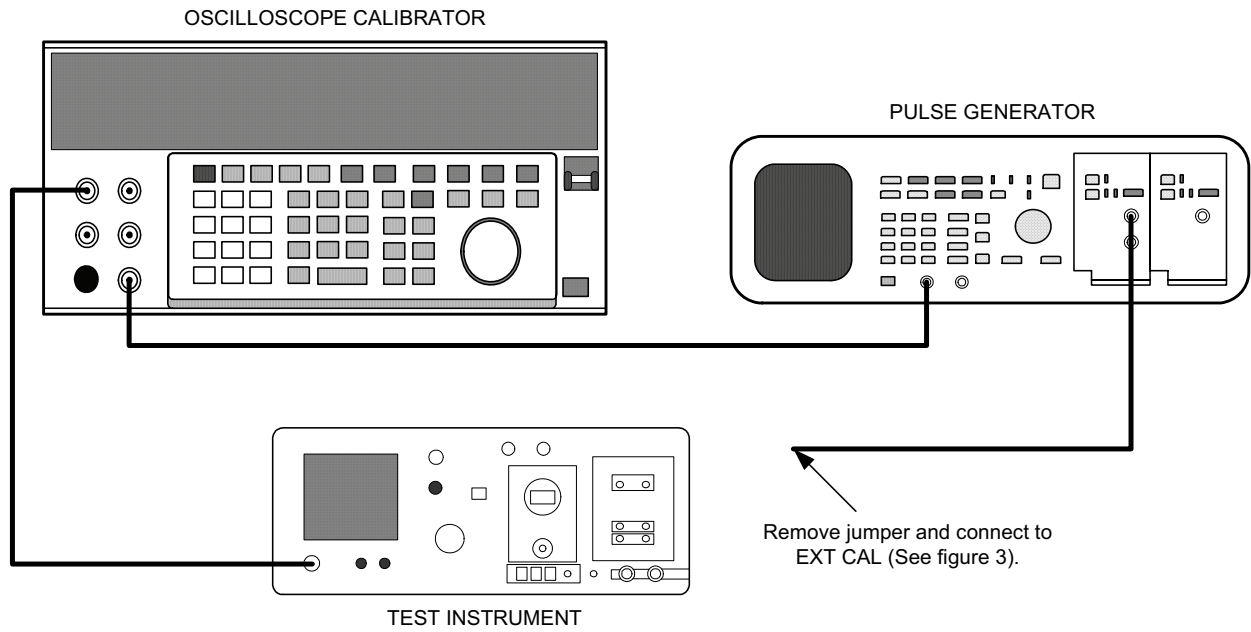
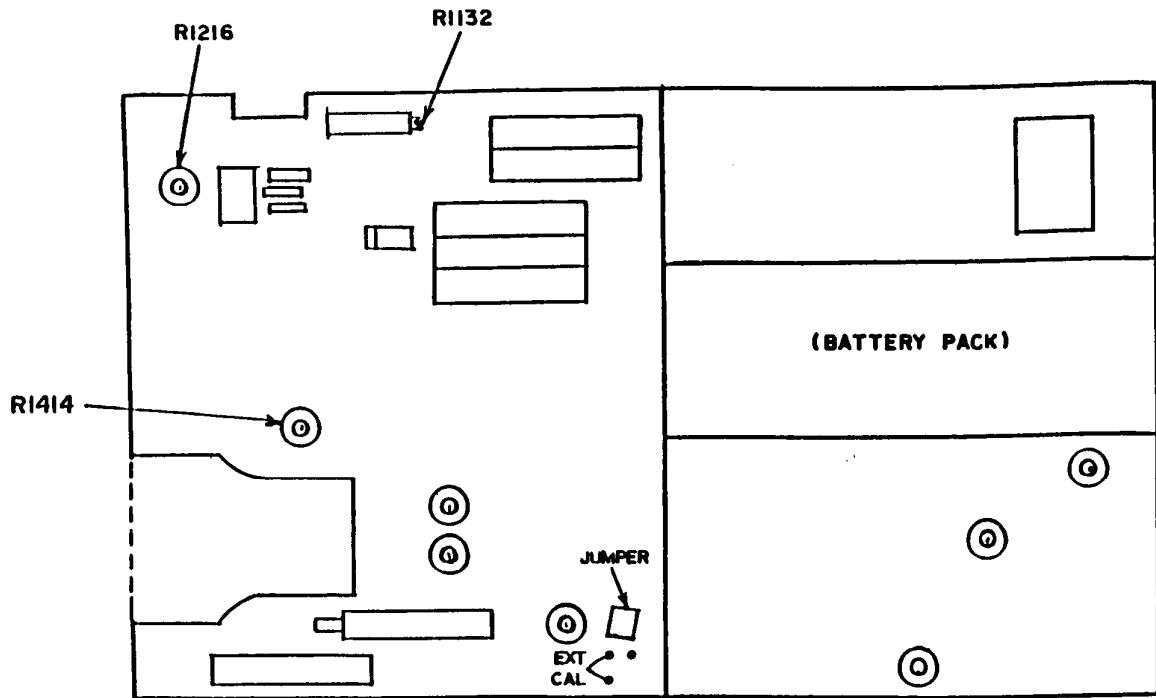

Figure 2. Timing - equipment setup.
Figure 3. - Main board - bottom view.
(1) Set **RET LOSS (dB) (SENSITIVITY (dB))** switch to **20 dB** and **FEET/DIV** switch to **50**.
(2) Connect equipment as shown in figure 2.
(3) Adjust pulse generator for -5 V output and pulse width of 100 μ s and external triggering.
(4) Set oscilloscope calibrator **MODE** for 1 μ S markers and **TRIG** to /100.
(5) Adjust pulse generator amplitude and pulse width for a stable 1 μ S marker display on TI.
(6) Using **ZERO REF SET** control, move TI pulse off screen. Adjust oscilloscope calibrator to align markers with display graticule lines. If oscilloscope calibrator does not indicate 1 μ S \pm 2 percent, perform **b** below.
b. Adjustments. Adjust R1216 (fig. 3) to align 1 time marker per graticule division.
b. Adjustments. Adjust R1414 (fig. 3) until second time marker is aligned with leading edge of second graticule line. Check that the pulse is at the same point on the graticule when the **ZERO REF CHECK** button is pressed.
- (1) Set multiplier switch to X100.
- (2) Set oscilloscope calibrator for 1 μ S markers and adjust for 1 marker per graticule division display. Oscilloscope calibrator will indicate 1 μ S, ± 2 percent.
- (3) Deenergize TI; remove all connections, and replace **EXT CAL** connector (fig. 3).
- (4) Energize TI and press **IMPLS WIDTH (ns) 100** pushbutton, (Set **TEST PULSE SHORT/MED/LONG** switch to **MED**) and set **RET LOSS (dB) (SENSITIVITY (dB))** switch to **0 dB**.
- (5) Adjust **ZERO REF SET** control to position leading edge of pulse display on graticule centerline.
- (6) Set multiplier switch to **X10** while observing pulse display. If leading edge does not remain on graticule centerline, perform **b** below.
- (1) Adjust R1132 (fig. 3) to align leading edge of pulse display on TI graticule centerline.
- (2) Alternately set multiplier switch between X100 and X10 positions while adjusting R1132 (fig. 3) for no movement of display.